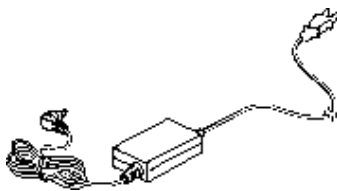

Figure 1-3 AC Adapter Unit
- **AC adapter with AC power cord (located in the accessories box).** (Figure 1-3.)